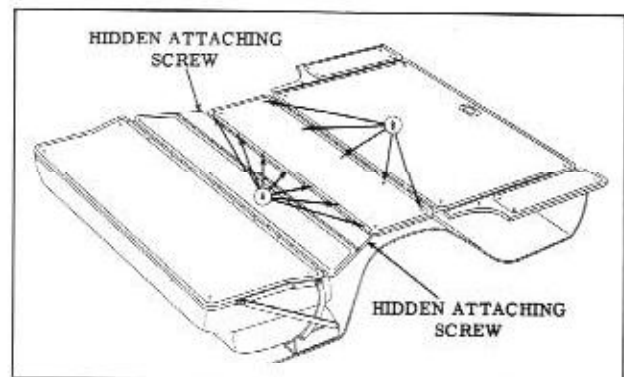

Fig. 15-69 Compartment Floor Panel Assembly
2. Remove rear floor filler panel to rear seat pan attaching screws as shown at "A" in Fig. 15-69.
NOTE: Attaching screws are located at each end of panel. (See HIDDEN ATTACHING SCREWS, Fig. 15-69)
4. Remove floor panel to spare tire cover hinge support panel attaching screws, shown at "B", Fig. 15-69, and remove compartment floor panel assembly from body.